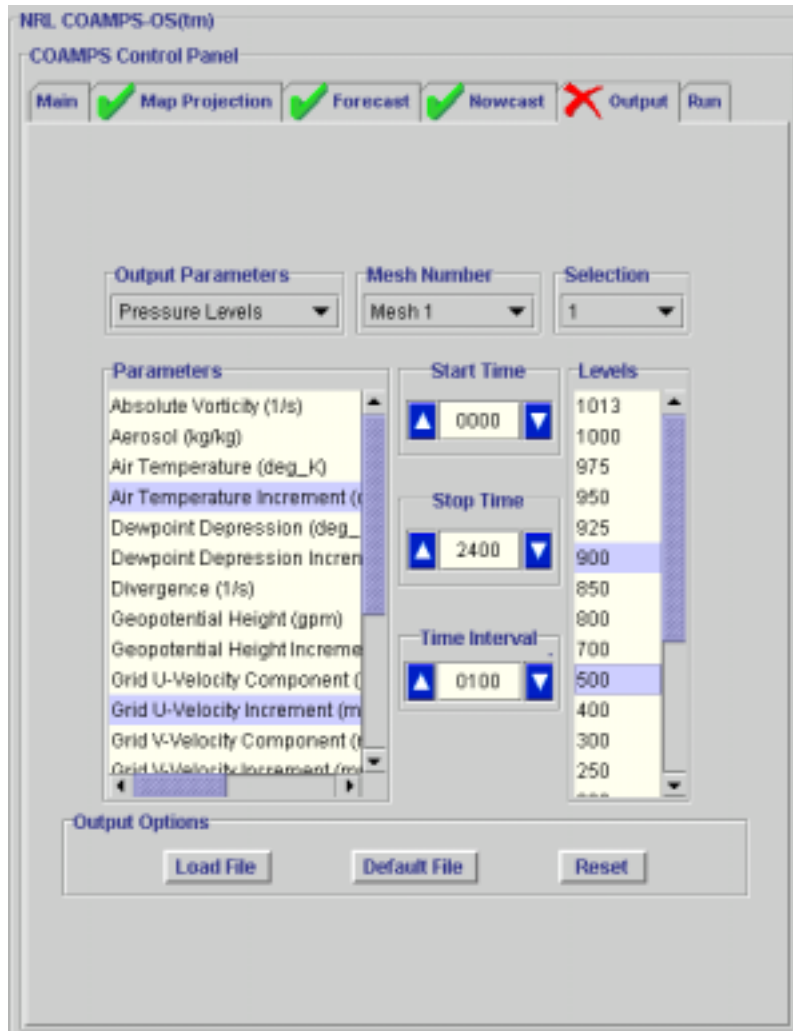

Figure 23. Output Control Panel with Parameters and Levels selected.
5. Select the pressure levels for the parameters by single clicking on each desired level. All parameters will be output on all levels selected. Figure 23 shows the **Output Control Panel** with pressure levels highlighted for the selected parameters.